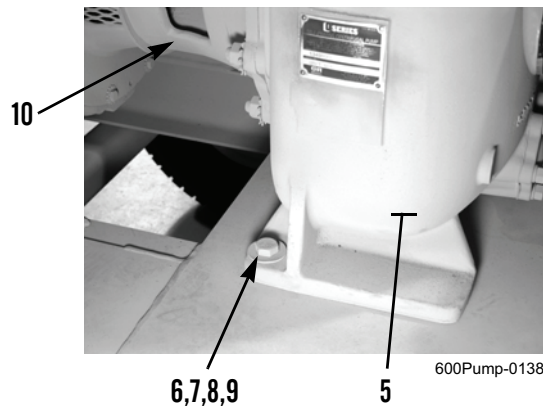

Figure 2. Pump Mounting to Trailer Chassis.
3. Remove two locknuts (Figure 2, Item 6), lockwashers (Figure 2, Item 7), four washers (Figure 2, Item 8), and two bolts (Figure 2, Item 9) from base of pump (Figure 2, Item 5) and trailer chassis. Discard locknuts and lockwashers.
4. Support intermediate housing (Figure 2, Item 10) and casing of pump (Figure 2, Item 5) with suitable lifting equipment.